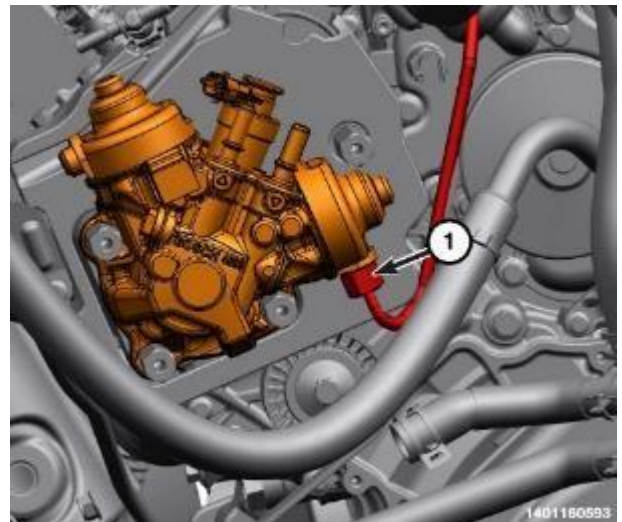

Figure 67 – Fuel Tube
- 117. Tighten the pump union nut (2) finger tight (Figure 67).